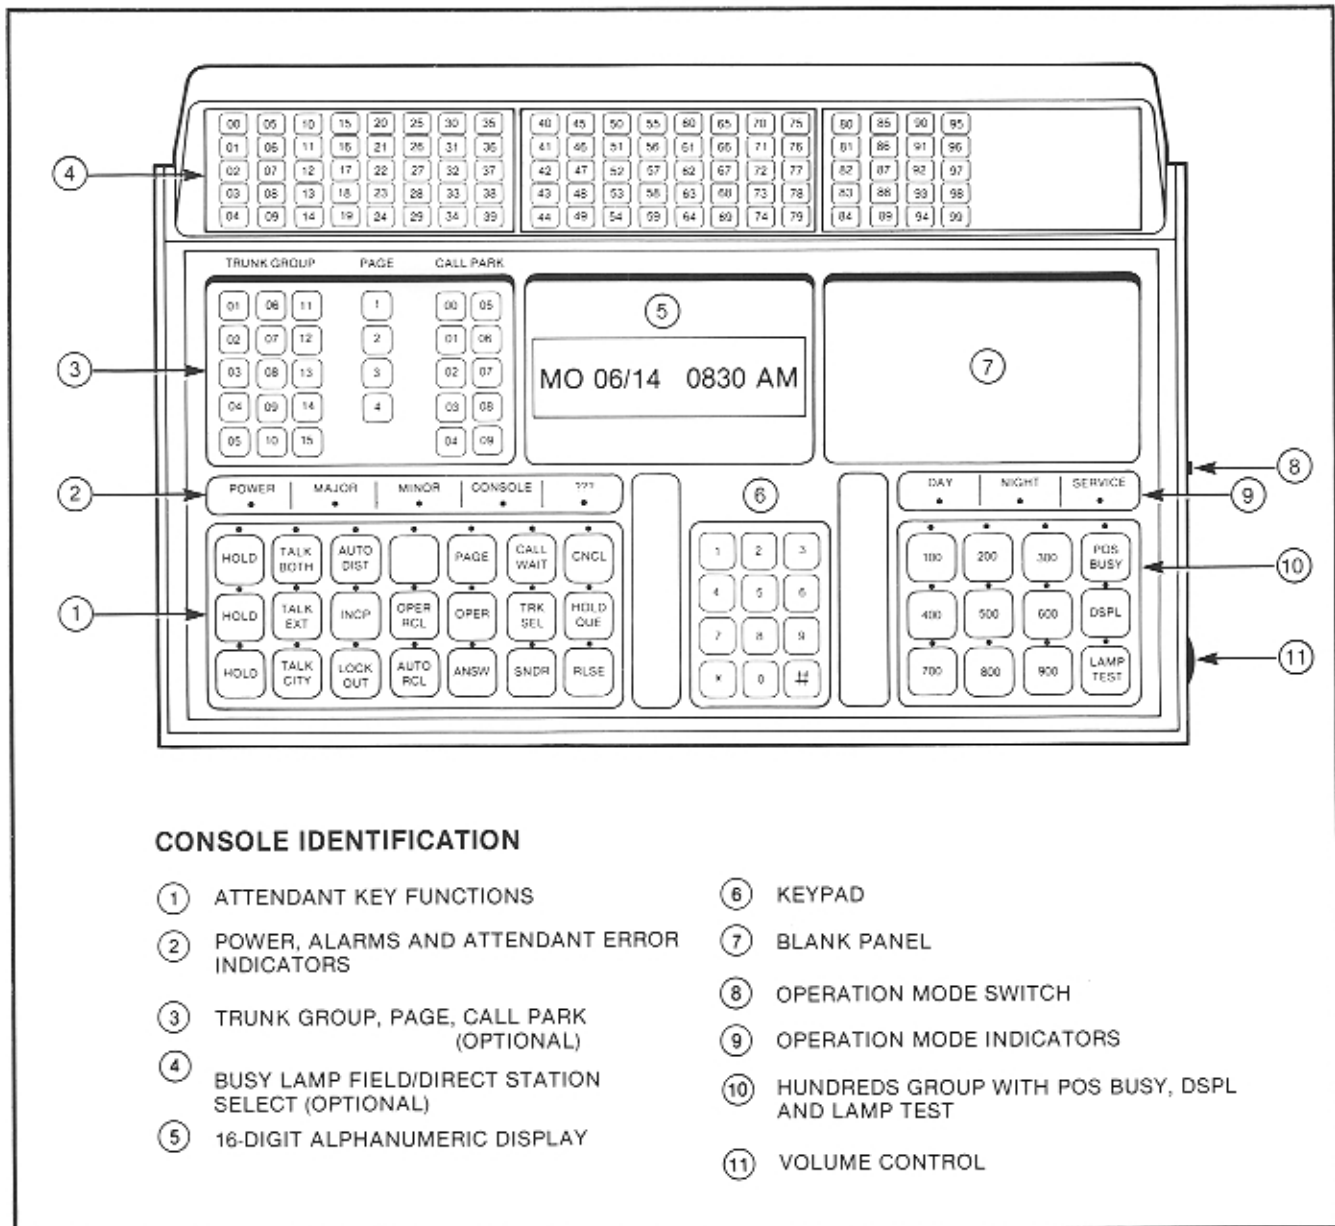

Figure 2-10. Attendant Console, Controls and Indicators
**2.15 Controls and Indicators.** The attendant console, as shown in Figure 2-10, contains the attendant keyboard, indicators, and LED alphanumeric display, as follows: